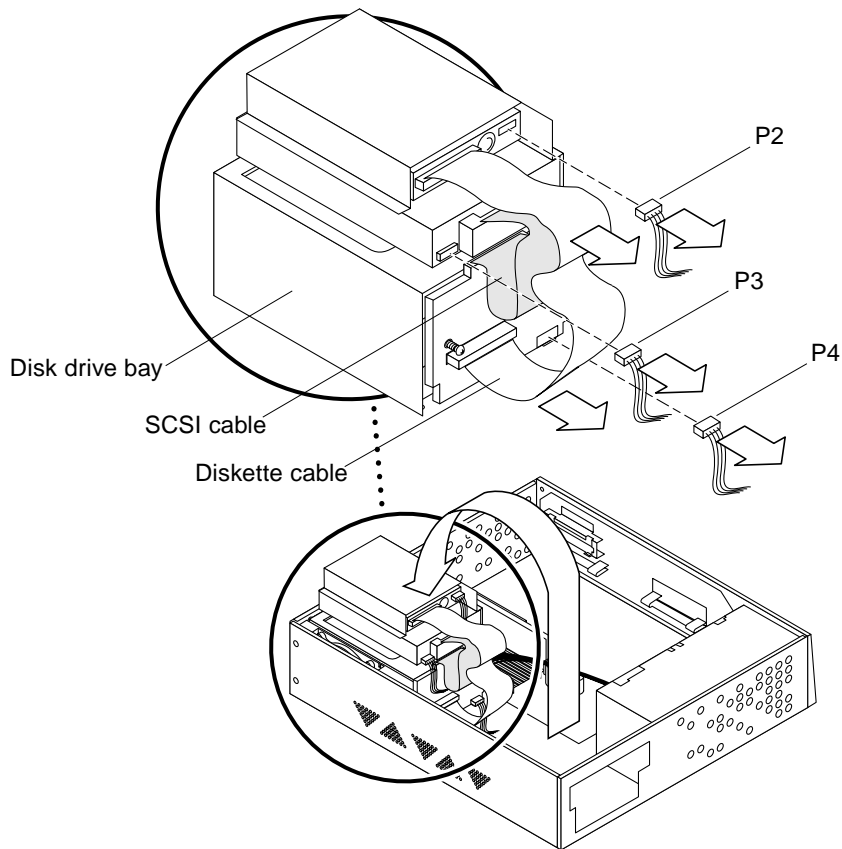

FIGURE 8-18 Removing the Peripheral Power Cable
- 5. Detach the peripheral power cable from the peripherals and the fan. See TABLE 8-1 and FIGURE 8-18.**